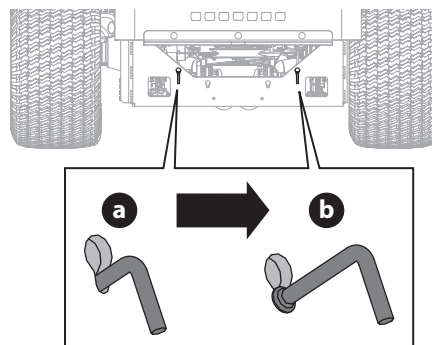

Fig. 41
1. To engage the transmission bypass rods, pull the rod (a) up into the larger opening of the key slot, then pull back until the collar on the rod passes through the frame (Fig. 41).
2. Lower the rod back into the smaller opening of the key slot, making sure the collar is secured on the outside of the frame (b). Repeat on opposite side (Fig. 41).